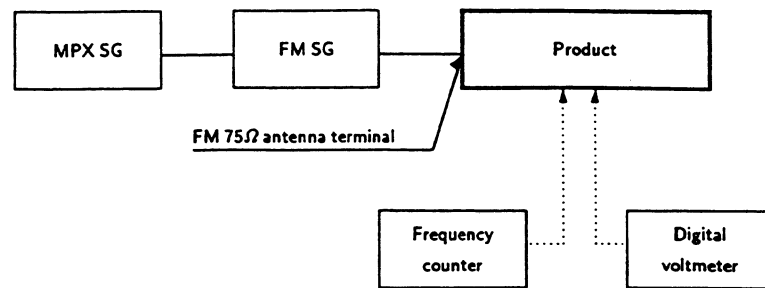

Fig. 5-1 FM Adjustment Connection Diagram
- Connect as shown in the Fig. 5-1.